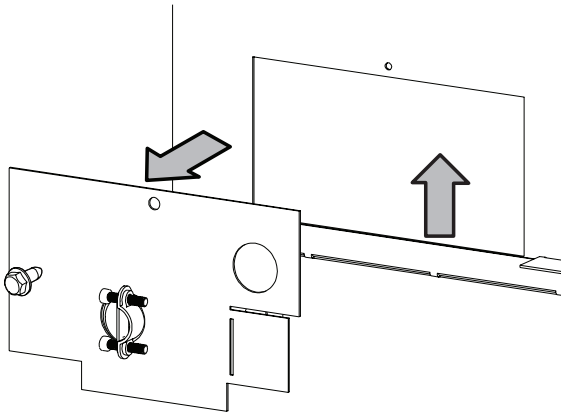

Figure 32
- Remove the electrical access cover panel from the left end of the fireplace. See Figure 32.
- Re-install the junction box into the firebox using the screws removed in step 2. See Figure 32.